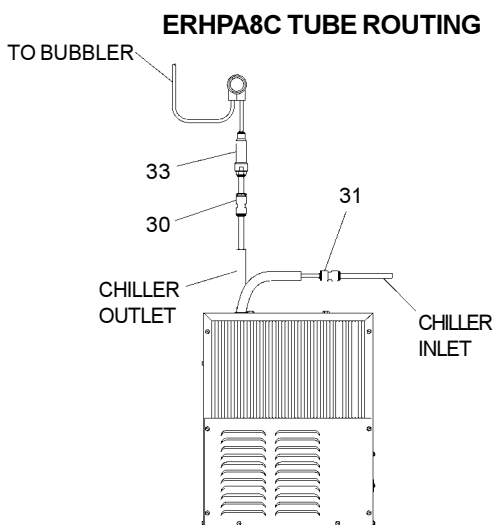

FIG. 5
3. **ERHPA MODELS:** Make connection between remote chiller and building supply line. Inlet port is marked on the chiller (1/4" O.D. copper tube). Bend the copper tube (provided) at an appropriate length from chiller to opening in frame. Install a 1/4" x 3/8" union (provided) on the marked chiller inlet port. Connect building supply line to union. (See Figure 5)
5. **Install** the fountain. Mount the fountain to the upper panel and the wall frame with (4) 1/4" x 3/4" (19mm) long bolts and nuts (provided). Tighten securely.
7. **ERHPA MODELS:** Make connections between remote chiller outlet tube and fountain strainer. Outlet port is marked on the chiller (3/8" O.D. copper tube). Install a 3/8" x 3/8" union (provided) on the marked chiller outlet port. Insert the 3/8" unplated copper water line (provided) into the union and the inlet side of the strainer by pushing it in until it reaches a positive stop, approximately 3/4" (19mm). Connect 1/4" copper tubing coming from fountain to the strainer. Turn on water supply and check for leaks. **DO NOT SOLDER TUBES INSERTED INTO THE STRAINER AS DAMAGE TO THE O-RINGS MAY RESULT.** (See Figure 5).